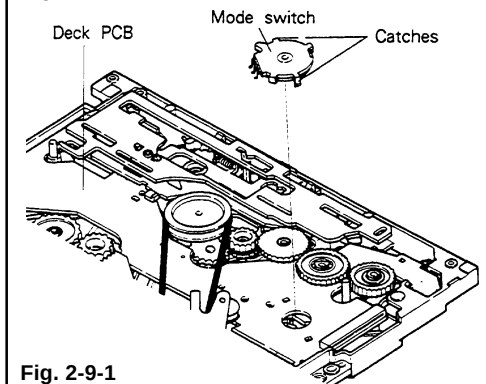

Fig. 2-9-1
2-9-1 Removal (Refer to Fig. 2-9-1)
2-9-2 Installation (Refer to Fig. 2-9-1,2-9-2.)
- Fasten the switch to the deck PCB with care so that the switch shall not turn, and secure with two catches.(Refer to Fig. 2-9-1.)